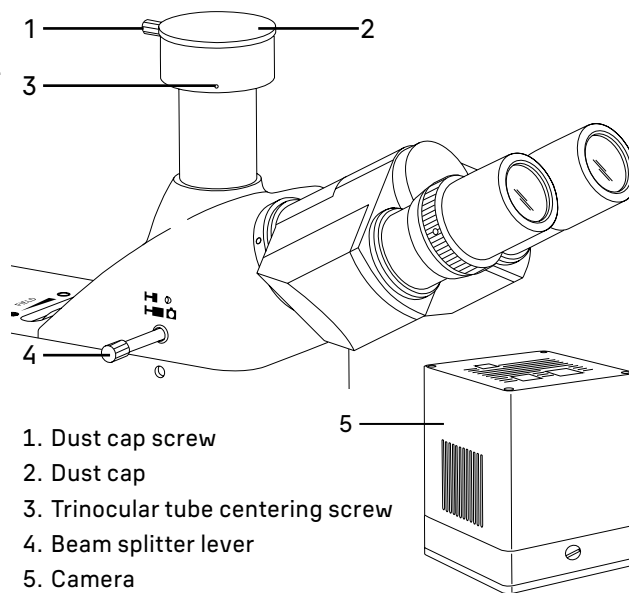

Fig. 13. Using the camera
- Loosen the dust cap screw 1 (Fig. 13). Remove the dust cap 2 (Fig. 13) from the trinocular tube.
- The microscope kit includes a C-mount adapter. Connect the camera 5 (Fig. 13) to the adapter.
- Fit the camera 5 (Fig. 13) into the trinocular tube and secure it with the screw 1 (Fig. 13).
- Pull out the beam splitter lever 4 (Fig. 13) as far as it will go. The knob is in the pushed-in position when the trinocular tube is not used.
- Switch on the camera 5 (Fig. 13) as per the manual and adjust the image.
If there is a strict requirement to synchronize the image in the eyepieces and camera (coincidence between the image center and direction), you should adjust the camera image using three centering screws 3 (Fig. 13). Do it as follows:
- Set the beam splitter lever 4 (Fig. 13) to the eyepiece position. While observing the specimen through the eyepieces, find a distinctive point in the field of view (an easily identifiable target, such as point S in Fig. 14a), move the specimen on the stage so that the point is in the center of the field of view, as shown in Fig. 14b. To do this, you should use a special calibration slide with crosshairs in place of an ordinary sample and an eyepiece with crosshairs in place of an ordinary one.
- Pull out the beam splitter lever 4 (Fig. 13) to the camera position. Look at the specimen on a monitor or display screen and make sure that the image of the target is in the center of the field of view. If the image deviates from the center of the field of view, adjust three centering screws 3 (Fig. 13) on the trinocular tube to move the target towards the center.
- Move the specimen and check whether the image of the specimen on the monitor or display screen moves in the same direction as the specimen does. If the image moves in another direction, you should adjust the camera position. Loosen the lock screw 1 (Fig. 13) and rotate the camera 5 (Fig. 13) to make the displayed image direction in line with the direction of stage movement, and then secure the screw.